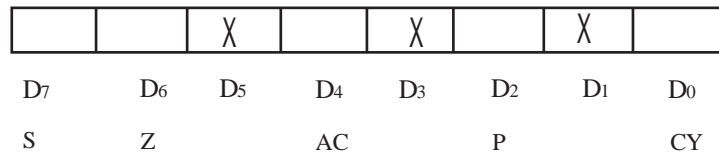

Fig. 2.4 Flag register
have a numerical value. The flag is an 8-bit register used to indicate the status of the recent arithmetic or logic operation. It may be set or reset after an arithmetic or logical operation according to the condition of the processed data. The five flag bits are Zero (Z), Carry (CY), Sign (S), Parity (P), and Auxiliary Carry (AC) flags and their bit positions in the flag register are shown in Figure 2.4. The remaining three bits (D1, D3 and D5) of the flag register remain unassigned and they are marked with an X to show that they are not used and are don't cares.